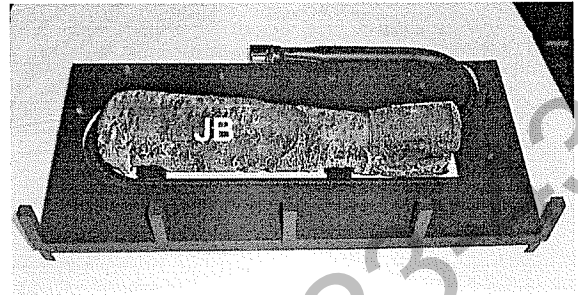

FIGURE 11D
## #936 DV LOG INSTALLATION. See Figures 11D -11F.
1. Align the notches in the bottom of the 'JB' log onto the brackets in the center of the burner cover as shown in figure 11D.